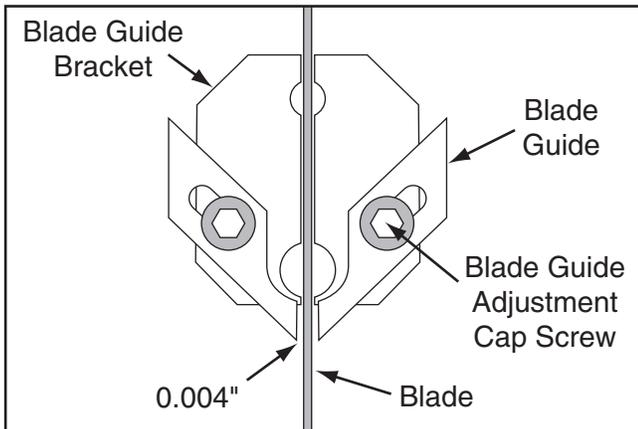

Figure 25. Blade guides adjusted 0.004" away from the blade sides.
- Loosen the blade guide adjustment cap screws (see **Figure 25**).